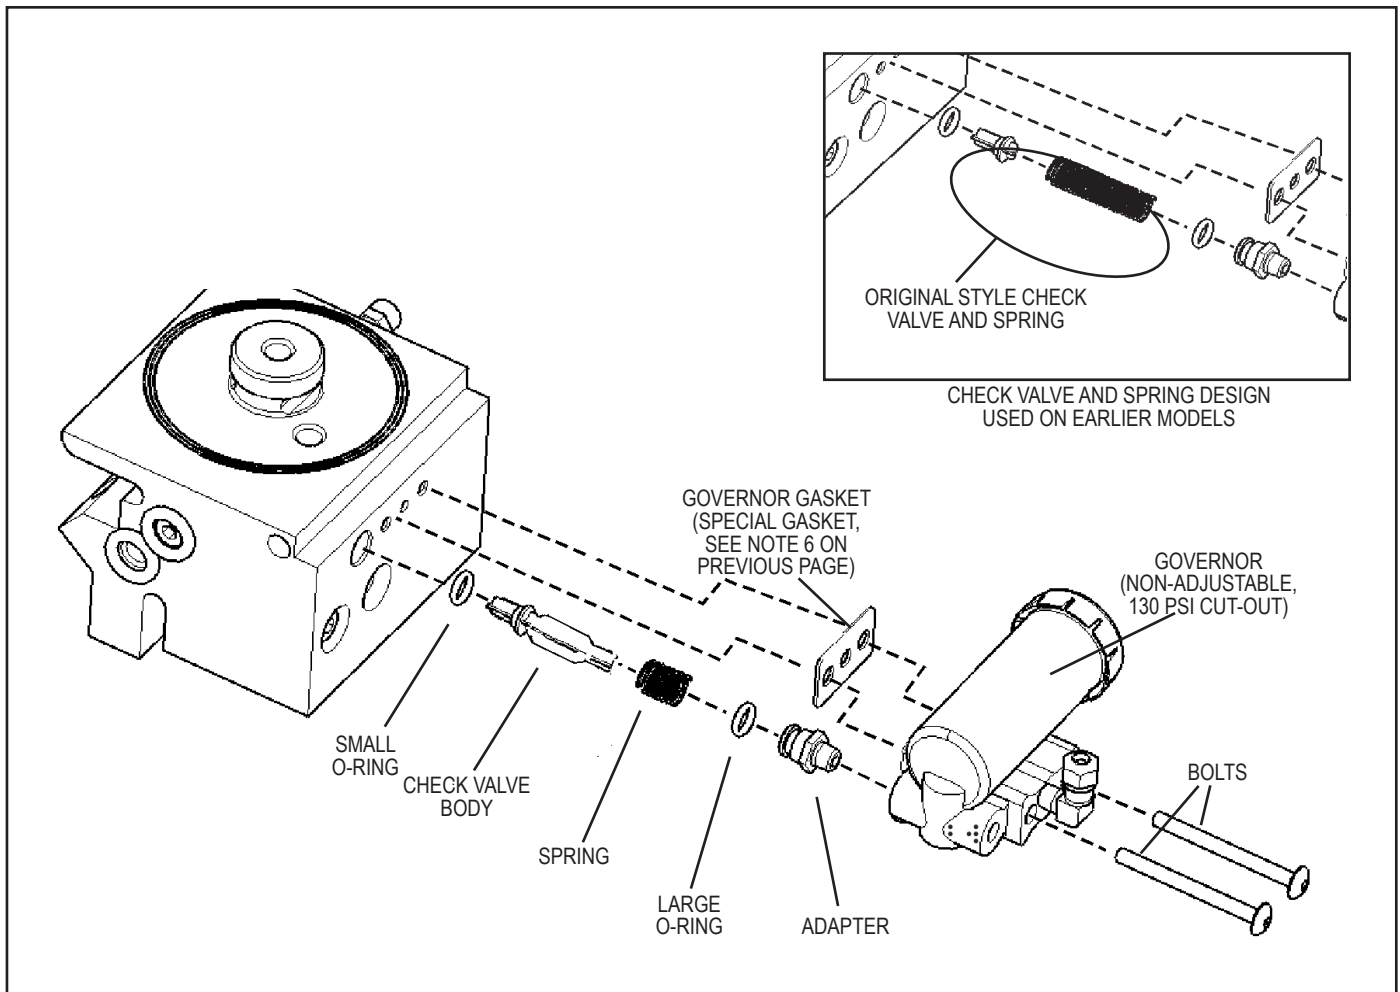

FIGURE 6 - BENDIX® AD-IS® AIR DRYER DELIVERY CHECK VALVE
Refer to Figure 6 throughout this procedure. Depressurize the air brake system following the general safety precautions outlined elsewhere in this document.
4. The spring/delivery check valve can now be removed. (Note: The spring/delivery check valve may be a previous design. See Figure 6.)